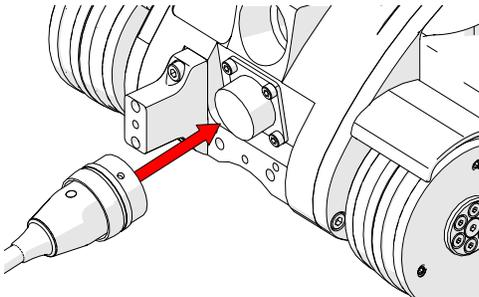

Fig. 89 - Connect to umbilical
1. Align the pins of the umbilical to the connector at the rear of the **SKOOT** (Fig. 89).